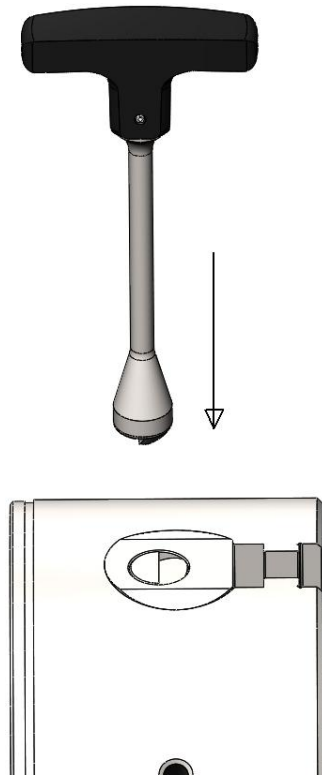

Fig. 13 Key engagement in the base jaw
- to insert the key in the primary jaw, fig. 13